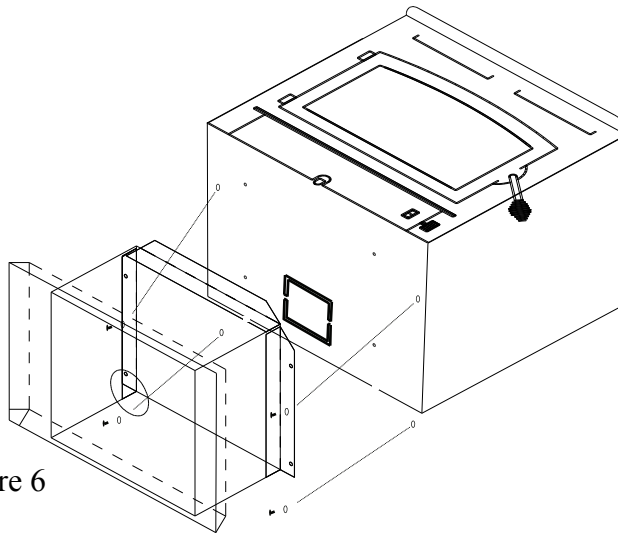

Figure 6
7. **If pedestal kit is being used, and outside air is required (See Page 27).** Open the corresponding freestanding kit and obtain the stand. Place the stand against the bottom of the heater (angle side to heater). Center stand front to rear, and also center the stand left and right, and mark screw locations on bottom of the stove through outer holes of stand mounting angles. Set stand aside and drill four 7/32" holes in heater bottom. Then mount stand to bottom of heater with screws provided. (See Figure 6).
8. Obtain four (4) 3/16" self-tapping screws and secure the stand to the heater.